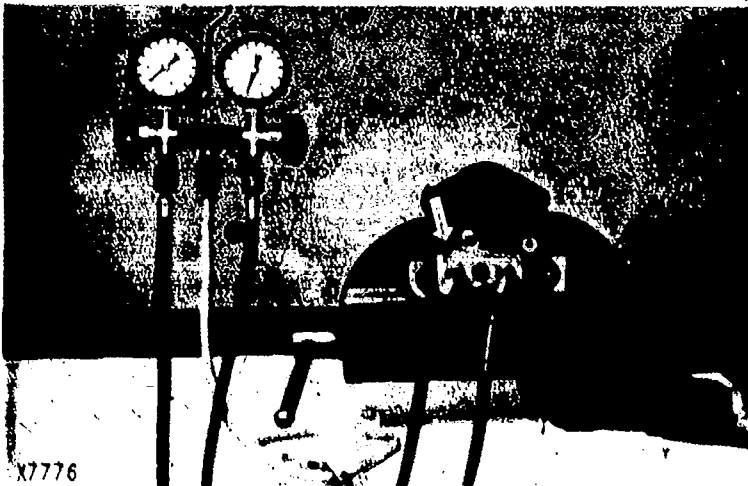

Fig. 69 — Test Plate Adapter Installed
4. Install a test plate adapter over low and high side ports (Fig. 69).